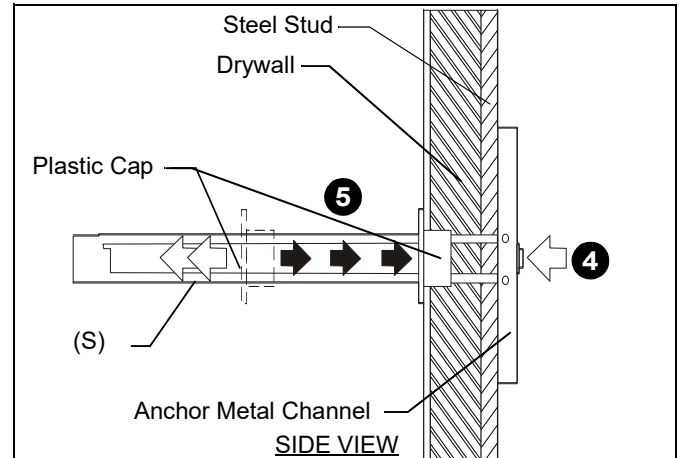

Figure 13
4. Holding plastic straps on anchor (S), pull anchor away from wall until channel rests flush behind wall making sure anchor channel is positioned vertically on stud. (See Figure 13)
5. Slide plastic cap on anchor (S) towards wall until flange of cap is flush with wall. (See Figure 13)